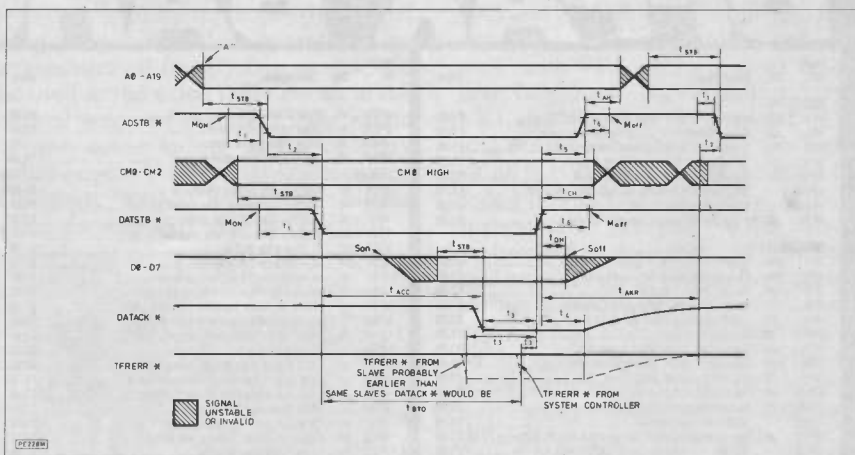

Fig. 2. The Read sequence
(1) The Read Sequence (see Fig. 2). This basic form covers memory reads, I/O reads and bus vector fetches. These three read operations differ only in the number of address lines which convey significant information and the levels of command lines CM1 and CM2 which define the slave function addressed.
If Fig. 2 looks a bit daunting, fear not. All the time periods with labels containing numeric subscripts have a common feature. That is t_1, t_2, \dots, t_n all have a minimum length of 0nS and no defined maximum length. They are there solely to indicate the sequential order of events. They indicate that the two events that they link can happen simultaneously, or the right-hand event can happen at any time after the left-hand event, but that the right-hand event must not be allowed to happen before the left-
hand event (the signal levels pictured in Fig. 2 are those to be found by attaching high impedance, low capacitance probes to the relevant lines of the backplane). Thus when testing a new board design one should ideally test to make sure that the correct signal sequences are received at each other slot in the system. By specifying the signal sequences in this way it is left up to the board designer to ensure that the design meets the standard, regardless of the particular characteristics of the bus drivers and internal timing logic that are employed.